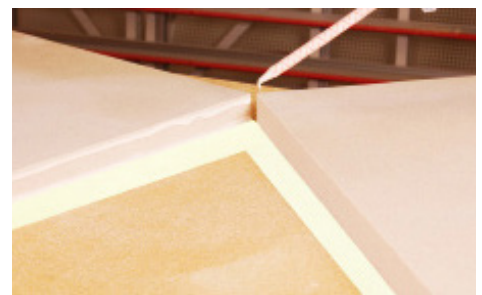

Figure 18B
- Apply two 3/16" (4.8mm) beads of adhesive on the edge of one panel to be seamed. (FIG. 18B)